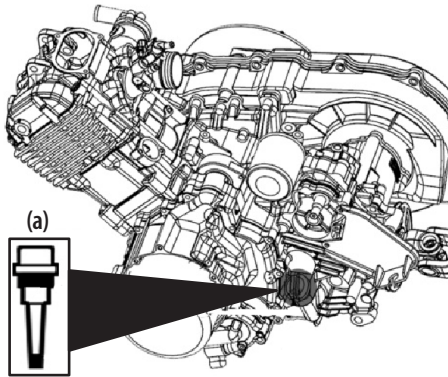

Figure 5-11
2. To check the oil level, remove the dipstick (a), wipe it clean, replace it without re-threading the dipstick, and pull it out again, check to see if the level is too low and add new oil to the full level on the dipstick (a). See Figure 5-11 for the location of dipstick.